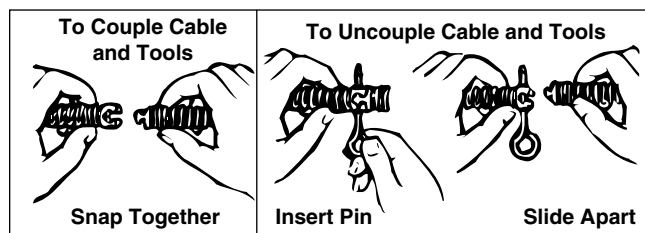

Figure 5 – Coupling and Uncoupling Tools
6. Select and install the proper tool to the end of the cable. The T-Slot Coupler allows the tool to be snapped into the cable coupler (Figure 5). To remove tool, use the pin key to depress the plunger and slide the coupler apart.